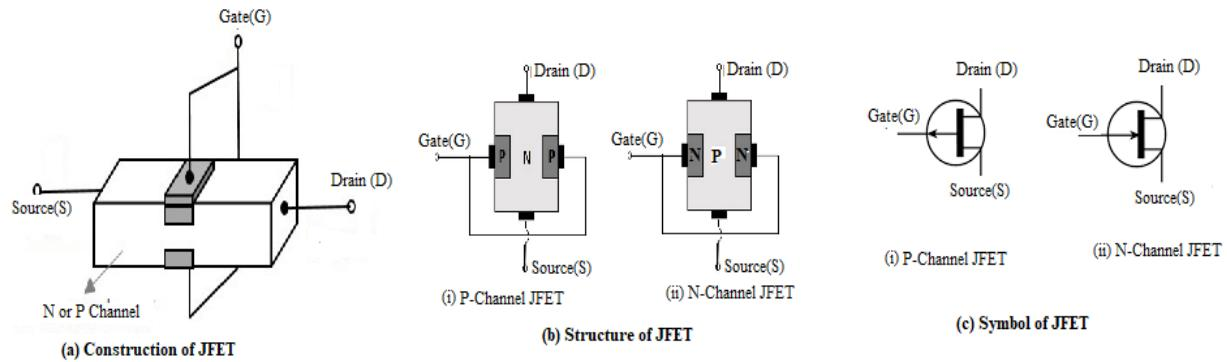

Figure 3.2 Construction and symbol of JFET
3.3.1 Basic construction and symbol of JFET: JFET consists of a P type or N type silicon bar consists of two PN junctions at the both sides are connected internally and a common terminal called GATE is taken out. As shown in Figure 3.2(a) and (b) the terminal through which the majority carriers inter is called SOURCE and the terminal through which the majority carrier leave the bar is called DRAIN. The region of Nor P type semiconductor material between two gate regions is called the channel though which the majority charge carriers move from source to drain. Hence If the bar is of n type, it is called N-channelJFET and if the bar is of p type is, It is called P-channelJFET.
*From the Figure 3.2 it seems as if there are three doped material regions However in reality the Gate material surrounds the channel like a belt surrounding the waist and leaves the bar as conducting channel for the charge carriers.